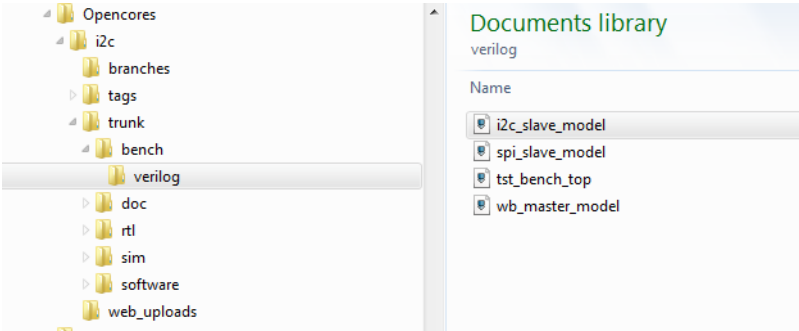

Figure 4-9 Test bench files
2. Navigate to the `i2c/trunk/bench/verilog` directory of your I2C core and select all the files except the `spi_slave_model` file (I'm not sure why this file is here; it is not used and it also has RTL errors), then click Open (Figure 4-9).